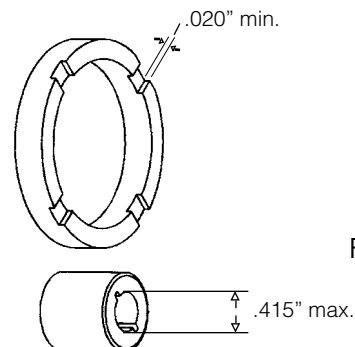

Figure 6
- Check impeller bushings (item 8A) in both the impeller assembly (item 8) and the impeller drive shaft (item 3), check both thrust rings (item 2A), both ceramic housing rings, and both the barrier ceramic post and the first stage impeller housing ceramic post for cracks, chips, scoring or excess wear. See figure 6. Replace as required.